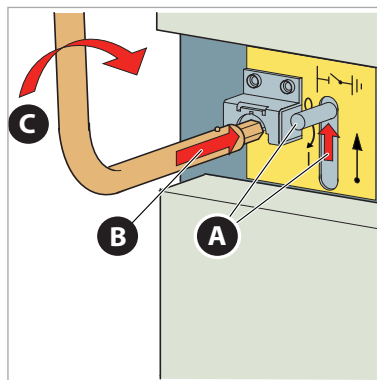

Fig. 4
1. Push the slide (Fig. 4, item A) upwards and insert the control lever of the earthing switch with the lever rod pointing up (Fig. 4, item B).
2. Turn the lever clockwise by approx. 95° (Fig. 4, item C).